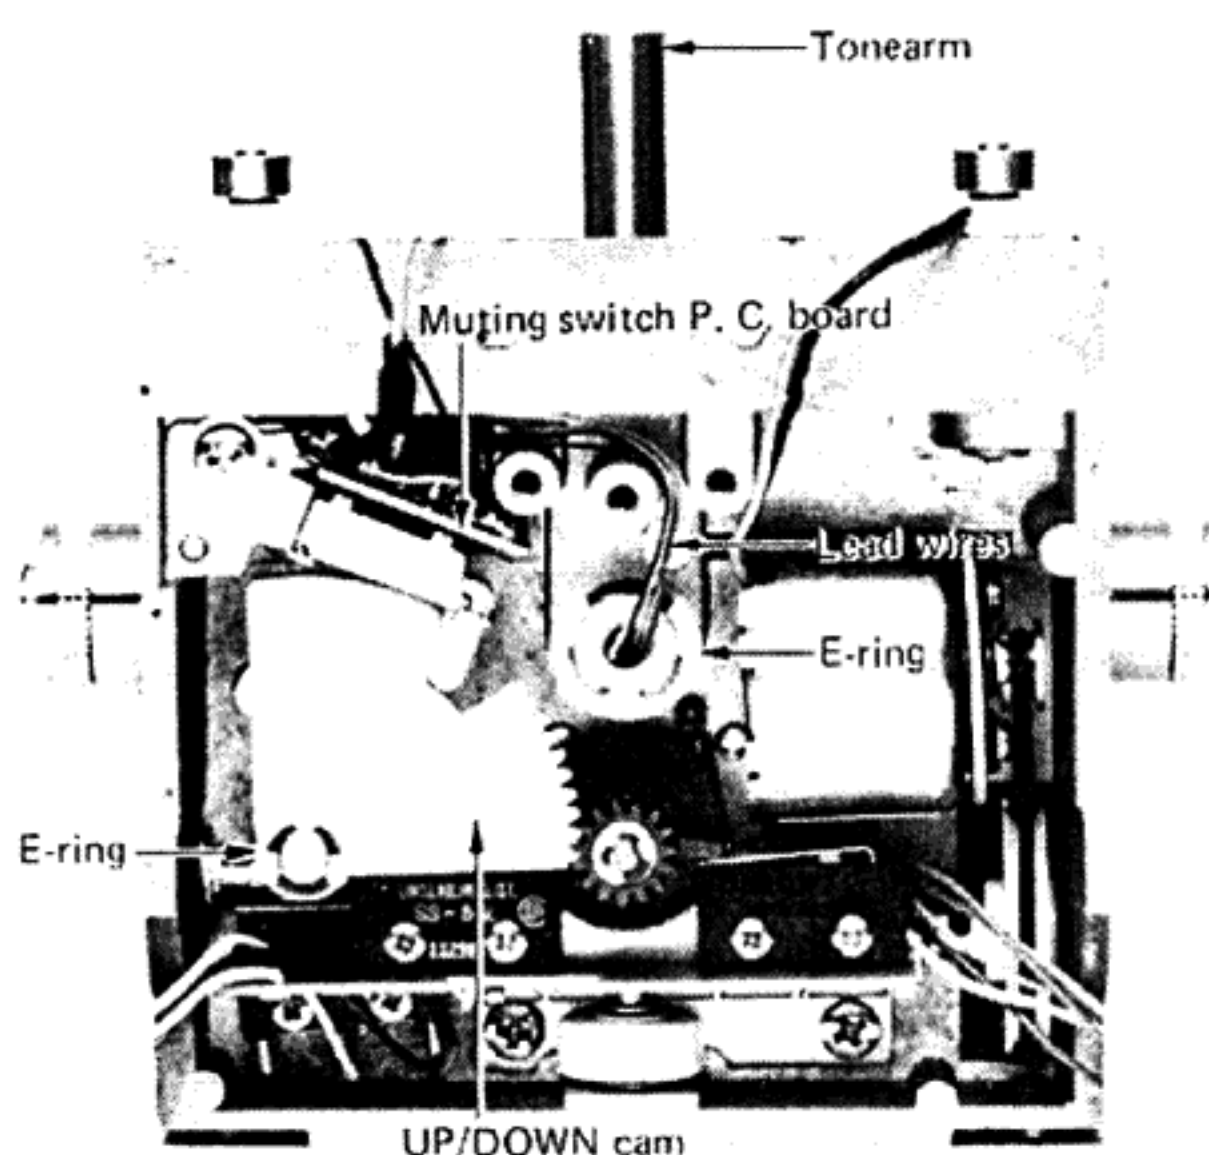

Fig. 5
- 2) Using a soldering iron, disconnect the five lead wires connected to the muting switch P. C. board from the tonearm. (Refer to Fig. 5)
- 3) After removing the two E-rings shown in Fig. 5, pull out the UP/DOWN cam. (for assembly, refer to "ASSEMBLY PRECAUTIONS - 2".)